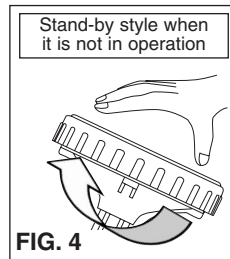

FIG. 4
- Fix RING to the CUP HOLDER by hand tightening (Stand-by style. Fig.4)